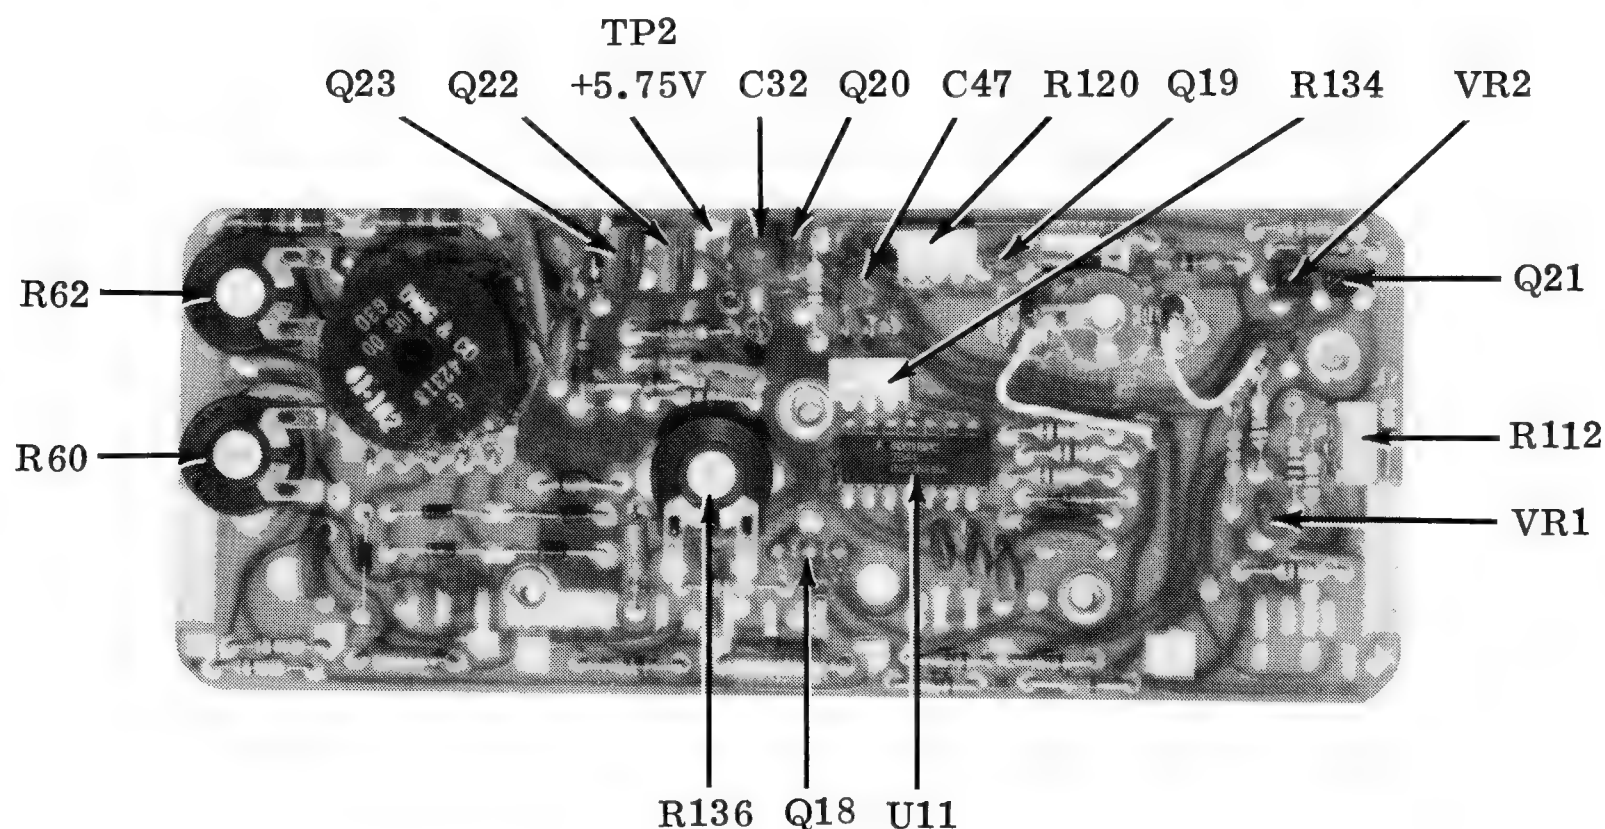

Figure 4-1. Component Location - Rear Board
3-4. Besides internal triggering, the scope can also be triggered from an external signal, the power line, or the horizontal sweep will free run if there is no triggering sources available. In following the various internal circuit descriptions below, refer to figure 3-1 - see also figures 4-1 and 4-2 for component location.
- b. Using another oscilloscope with vertical deflection calibrated to 1% or better, connect its ground to MS-215 ground and its input to upper fuse terminal. Also connect a 2 k $\Omega$  resistor from upper fuse terminal to ground. Adjust R112 (figure 4-1) until peak-to-peak voltage measures 7.2 VDC.
- d. Check to see that red power indicator LED on front panel is illuminated. If not, adjust R120 (figure 4-1) CCW and turn PWR switch off and then on again.
- e. Connect an LM-3.5A between TP2 (figure 4-1) and ground.
- f. Adjust R120 (figure 4-1) until multimeter reads +5.75 VDC.
- c. Adjust R134 (figure 4-1) so that retrace just appears at top and/or bottom of square wave. Note position of R134.